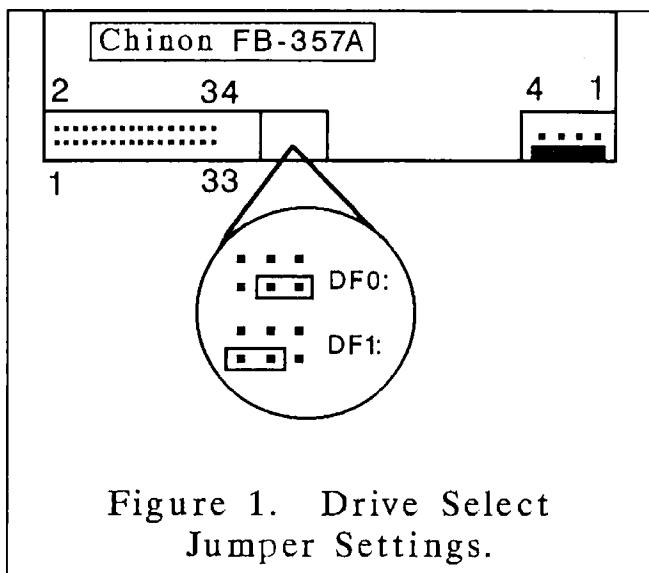

Figure 1. Drive Select Jumper Settings.
3) Remove the two standoffs (A500 drive) or four standoffs (A2000 drive) from the drive case. Look at the high-density drive's rear case and Figure 1. The figure shows the drive select jumper positions. If the drive will be mounted externally, in an A500, or as DFO; in the A2000, the jumper should be in the DFO: position. The only time you need to set the jumper to the DF1: position is when you mount the drive as DF1: in the A2000.